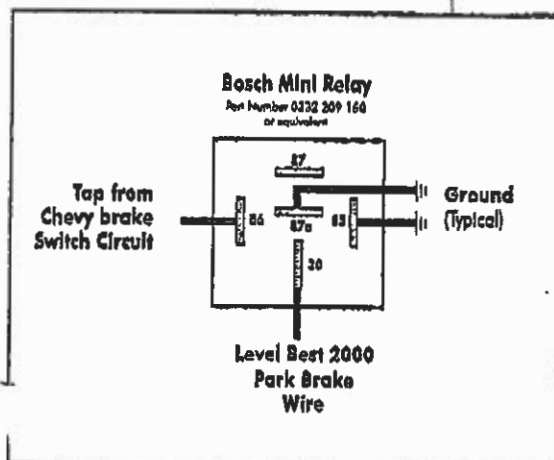

Figure 2c
1. Green LED flashes when energized. This condition indicates an improper, or an inadequate signal for the park brake interlock. Check that the park brake is set on. Check the connection at the signal source, this is normally located at or near the parking brake assembly. In some General Motors vehicles the park brake may be energized by a large yellow handled switch located on or near the dash panel. This type of switch requires an additional "mini relay" to transform the signal for the control panel. (Fig. 2c)